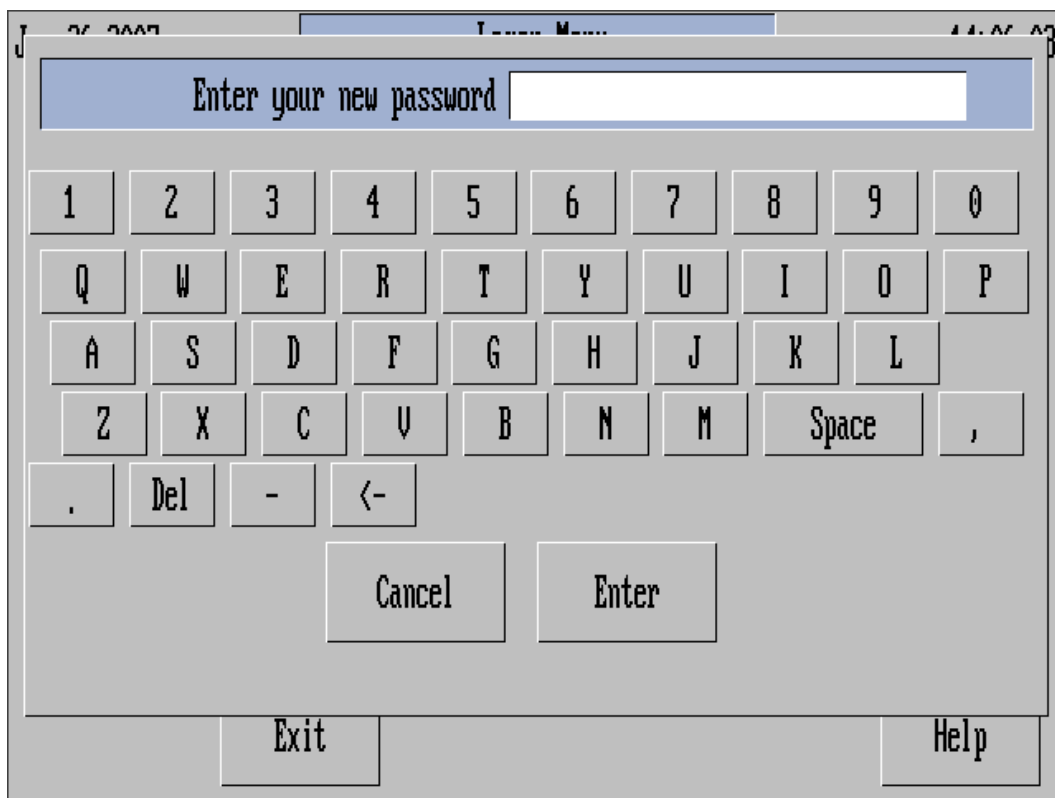

Figure 6-20: Create Your New Password
5. The next screen will prompt you to enter a new password (see Figure 6-20). Type a valid password that is at least six characters long (or the minimum password length as defined by the system administrator). After typing the password, press the Enter button. If you attempt to enter a password that is too short, the AutovaxID software will notify you and asks you to reenter a new, longer password. Your password may be any combination of the letters, numbers, and punctuation marks that are available on the on-screen keyboard, up to 34 characters. As the password is typed, it is kept secret by displaying only the asterisk character (*) in the entry field.